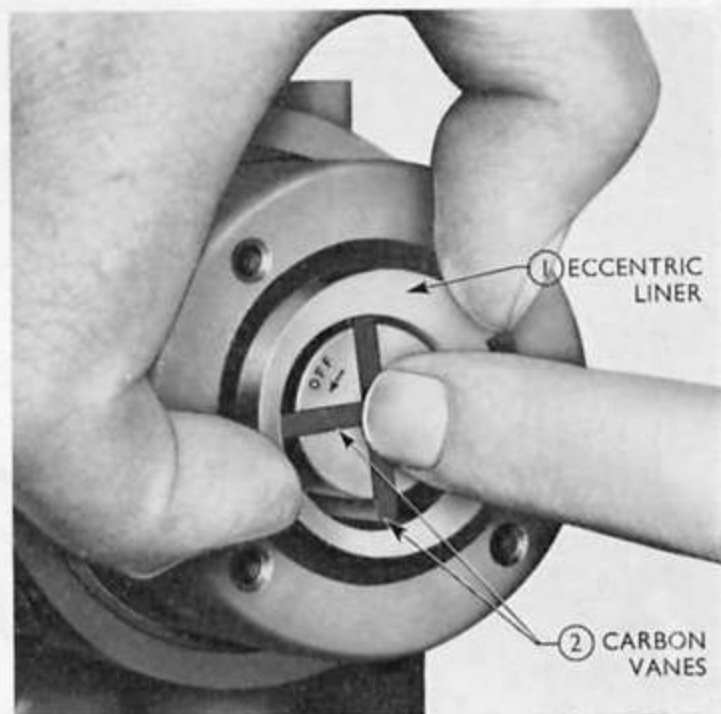

Fig. 38
11. Holding the carbon vanes in position, withdraw the transfer pump eccentric liner (see Fig. 38) and carefully remove the carbon vanes.